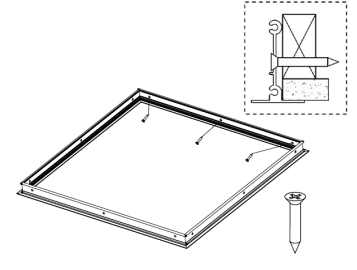

Fig. 10
2. Place the assembled frame in the cut-out and secure it with the countersunk self tapping screws (Fig. 10)